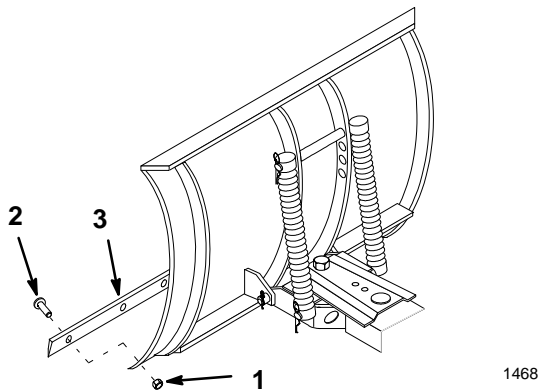

Figure 23
3. Remove lock nuts and carriage bolts to remove scraper blade (Fig. 23).
4. Reverse scraper blade to replace a worn edge and install with previously removed hardware (Fig. 23).